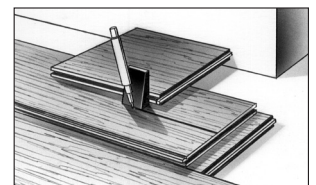

Figure 10
- Place the row of planks to be fit on top of the last row of installed planks. Use a piece of the plank as a scribe to trace the contour of the wall (Fig. 10).